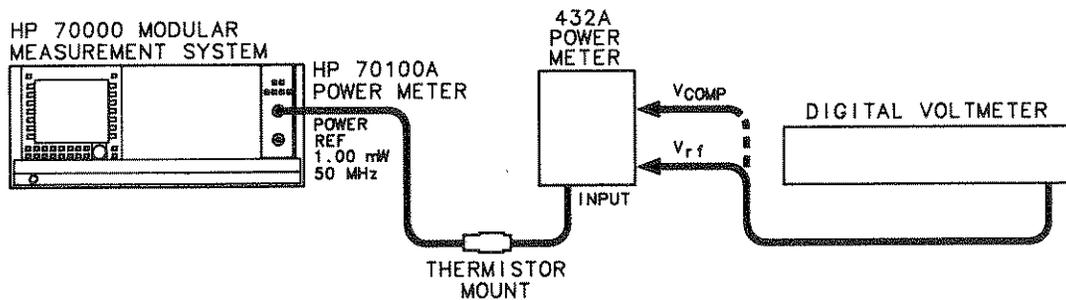

Figure 4-3. Power Reference Level Test Setup
3. Connect the test power meter to the HP 70100A as shown in Figure 4-3.